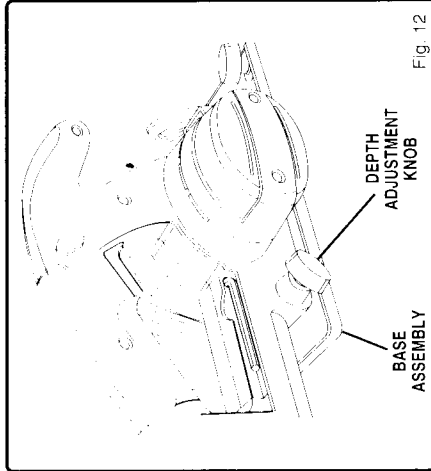

Fig. 12
- Loosen depth adjustment knob. See Figure 12.